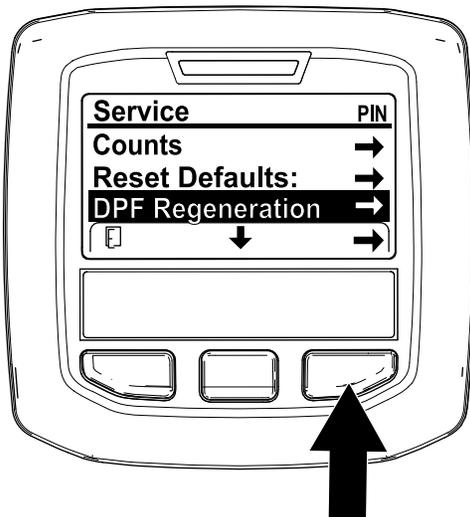

Figure 36
1. Access the Service menu, press the center button to scroll down to the DPF REGENERATION option (Figure 36).
2. Press the right button to select the DPF Regeneration entry (Figure 36).